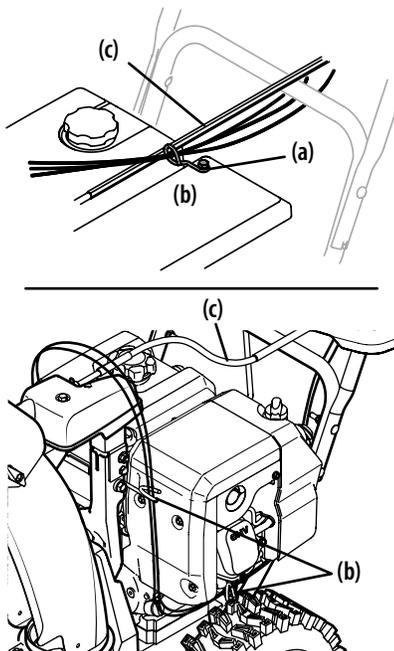

Figure 2-41
Chute control cables are routed through a single wire guide (a) on top of the engine and/or through two wire guides (b) located on the left side of the unit. See Figure 2-41.
- Units with Top Mounted Wire Guide (a) - Check that all cables are properly routed through cable guide on top of engine. See Figure 2-41.
- Units with Side Mounted Wire Guides (b) - Check that all cables are properly routed through the wire guide below the left side of the engine and the wire guide below the chute control head. See Figure 2-41.